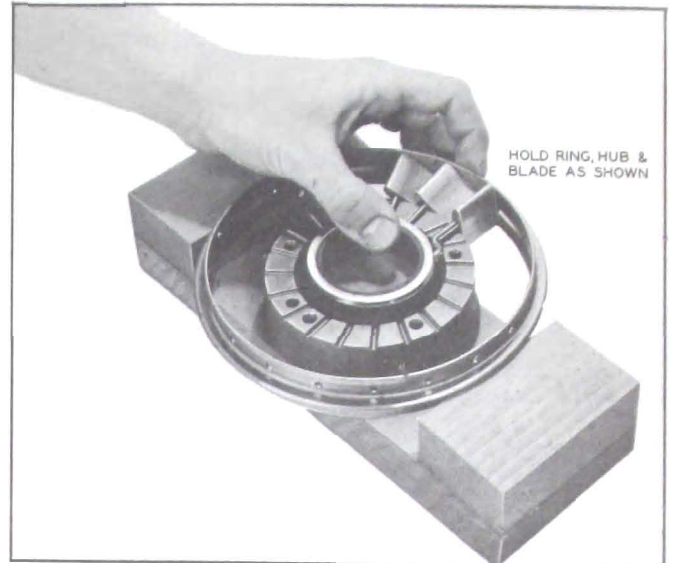

Figure 5-58—Inserting Stator Blades in Carrier
3. Place the stator outer ring on 2 outer blocks of fixture with crank pin holes up. See Figure 5-58.
crank throw into the piston groove. Hold the piston, blades, and outer ring together as shown in Figure 5-58.